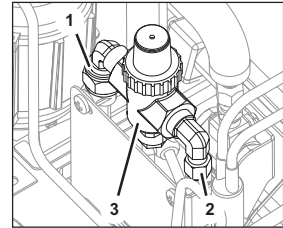

Fig. 73
1. Release the couplings (Fig. 73/1 and 2) of the water pressure control valve (Fig. 73/3).
2. Take the water pressure control valve (Fig. 73/3) out of the unit.
5. Position the new water pressure control valve (Fig. 73/3) within the unit.
6. Attach the water pressure control valve within the unit (Fig. 73/3) with the assistance of the couplings (Fig. 73/1 and 2).